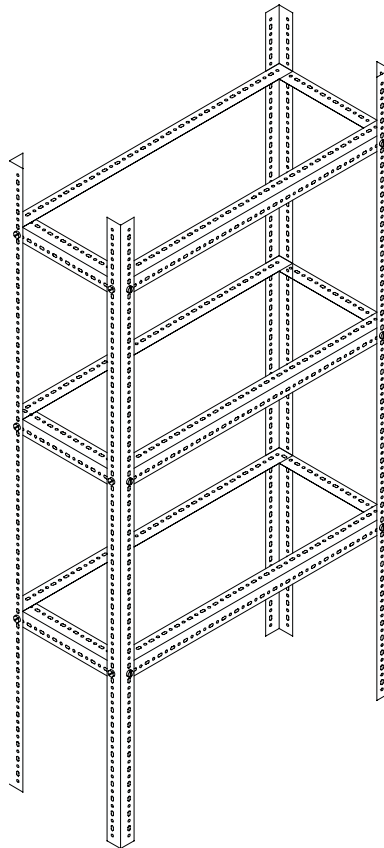

Fig. 6.1
- 6 Fig. 6.1 shows the framework for a set of shelves used to carry heavy loads in a workshop. The frame is made from slotted steel angle material that is bolted together.
- (a) Draw on Fig. 6.1 to show how triangulation can be used to make the framework more rigid when the shelves are loaded. [2]